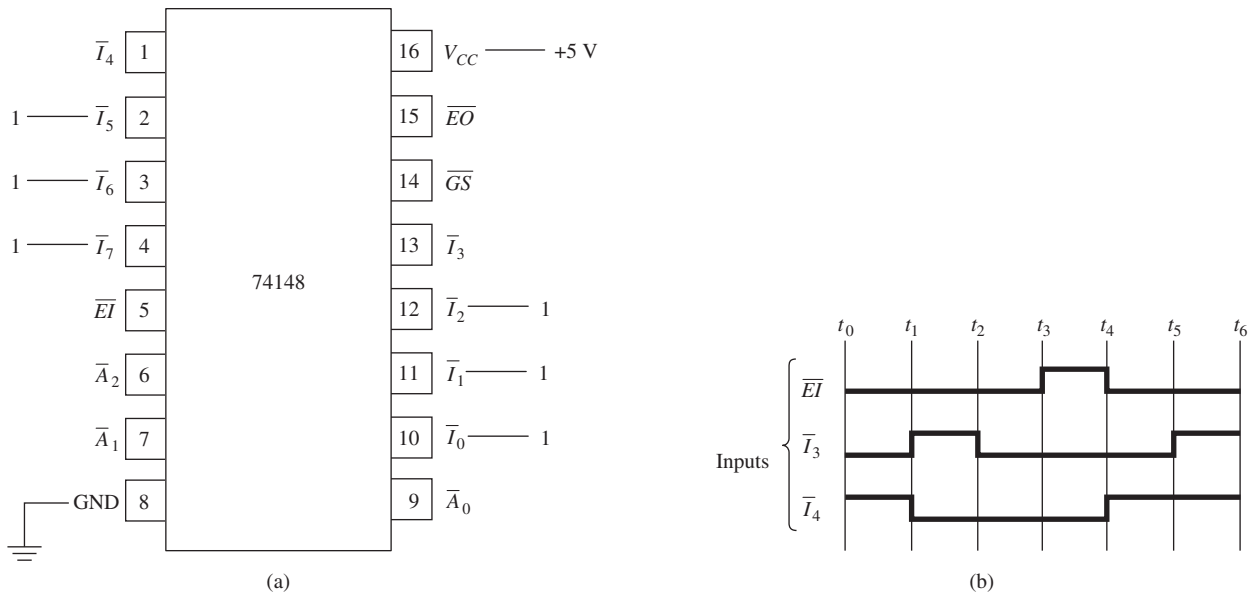

Figure P15
15. Sketch the waveforms ($\bar{A}_0, \bar{A}_1, \bar{A}_2, \bar{EO}, \bar{GS}$) given the inputs shown in Figure P15(b) to the 74148 of Figure P15(a).